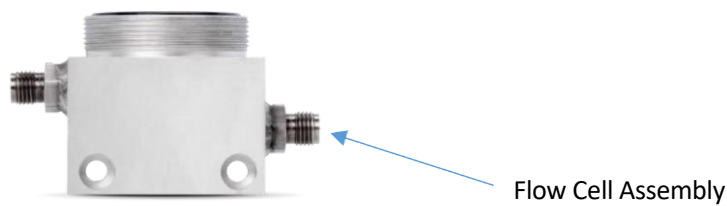

Figure 14. Zero Calibration
8) Select **Probe Calibration** from the Settings menu. Then select **Zero cal** as shown in Figure 14.